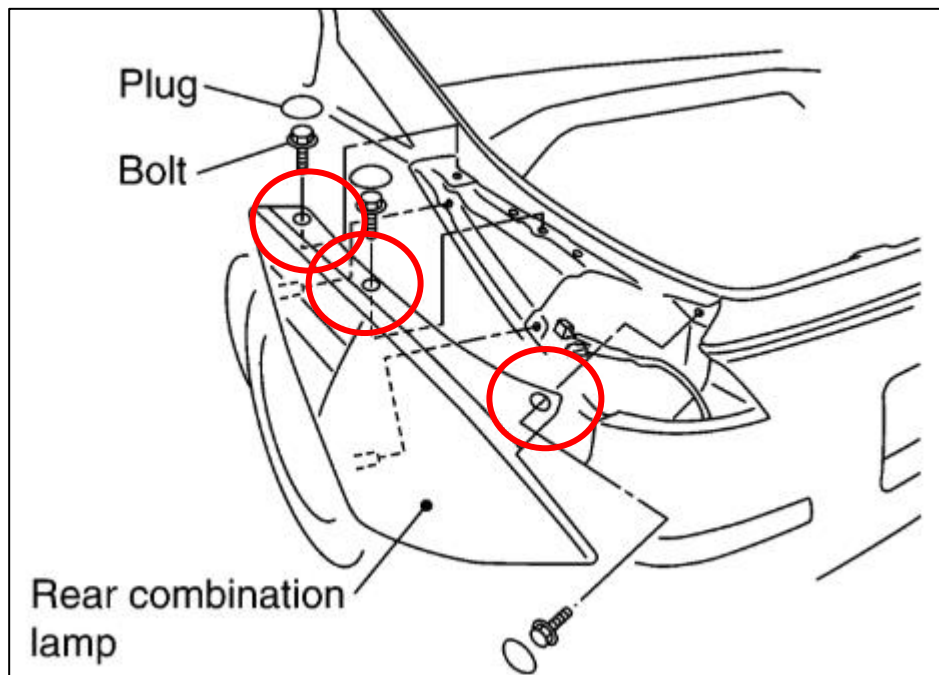

Figure 1
4. Remove the (3) three bolts that secure each Taillight. The bolts may be covered by plastic covers, which can easily be removed with a flathead screwdriver. *Figure 1.*